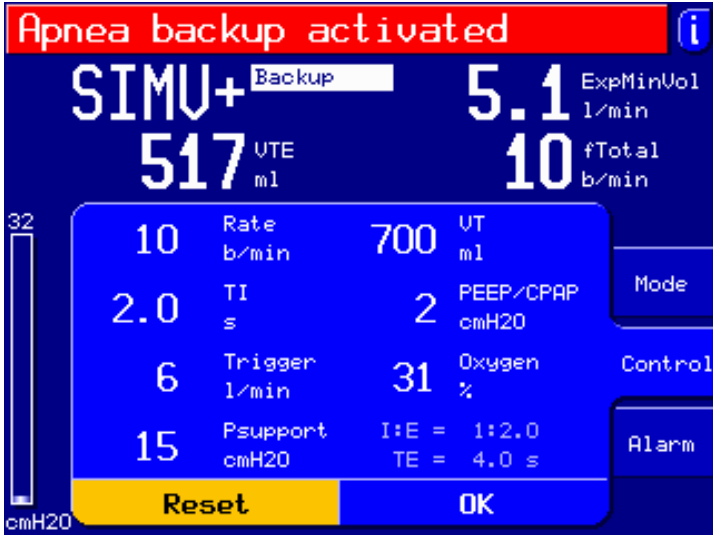

Figure 4-3. Apnea backup controls window
5. When the RAPHAEL enters apnea backup ventilation, it displays the apnea backup controls window (Figure 4-3). Do one of the following: